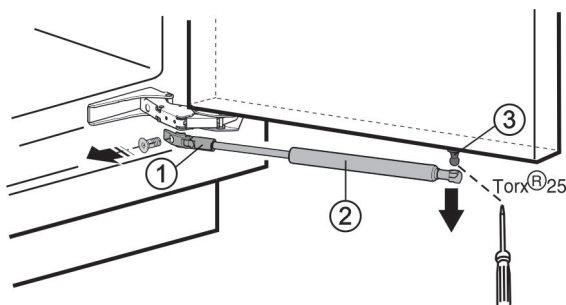

Fig. 4
- ▶ Lower soft stop mechanism *Fig. 4 (2)* for removal.
- ▶ Unscrew holder *Fig. 4 (1)*.
- ▶ Unscrew the ball stud *Fig. 4 (3)* (Torx® 25).